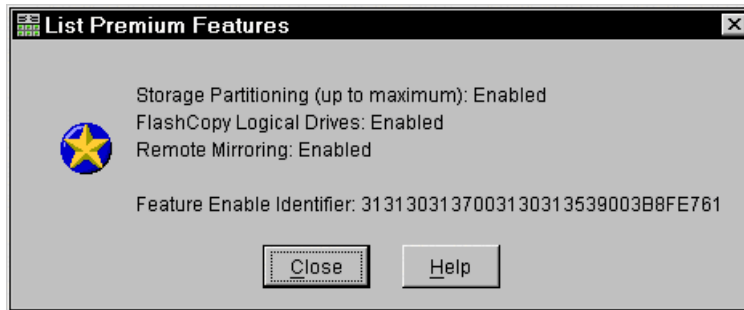

Figure 5-4 Premium features
2. Verify that “FlashCopy Logical Drives:” indicates *Enabled* as shown in Figure 5-4.